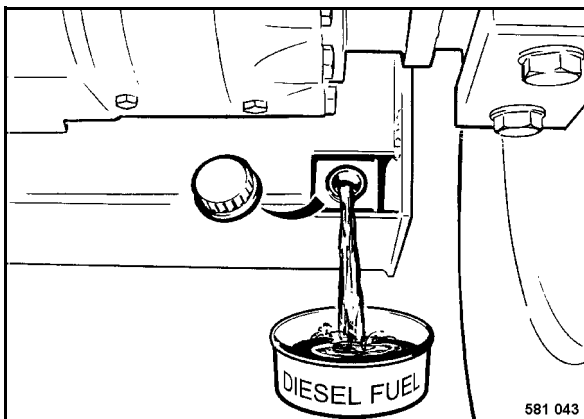

Fig. 71
- Unscrew the cap (Fig. 71) and drain off approx. 5 litres of fuel.